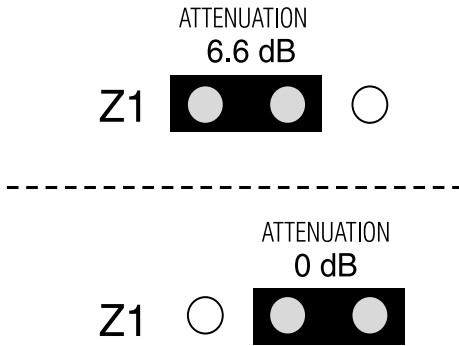

Figure 2.2. Jumper Settings for 6.6 dB Attenuation and 0 dB Attenuation
8.6dB for headroom. Jumper Z1 is in the 0dB attenuation position by default (Figure 2.2).